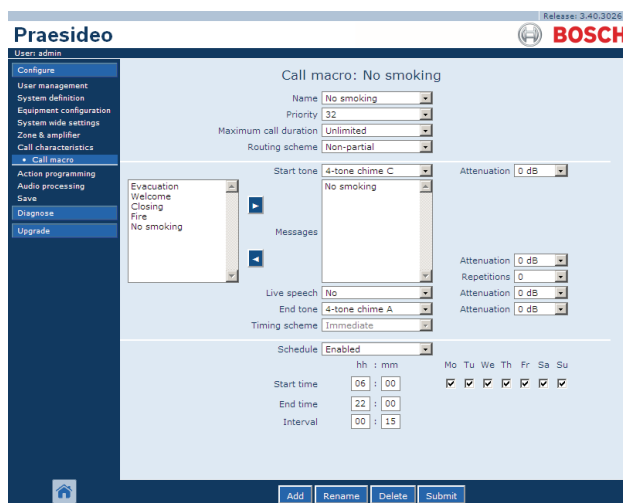

figure 47.2: Add call macro, step 1
- 1 Go to *Configure > Call characteristics > Call macro*. A screen similar to the one in figure 47.2 appears in the main frame of the web interface.